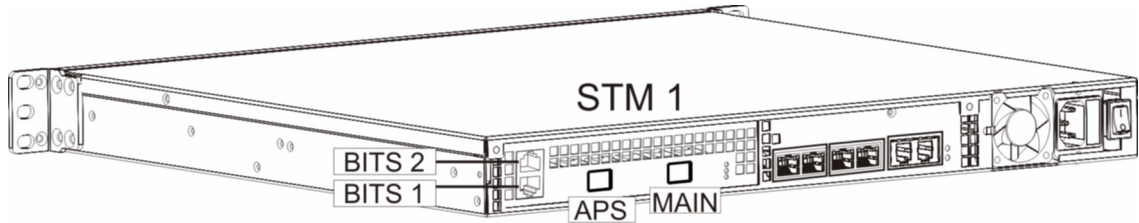

Figure 2.9 Optical Interface to the PSTN
A TMP6400, with one main and one backup OC3 or STM-1 port enables connection to OC3/STM-1 lines. See figure 2.9 on page 20. Refer to table 2.2 on page 20 for a listing of optical interfaces.
1. Connect a fiber optic cable between the Main port and OC3/STM-1 line, as shown in figure 2.9 on page 20.